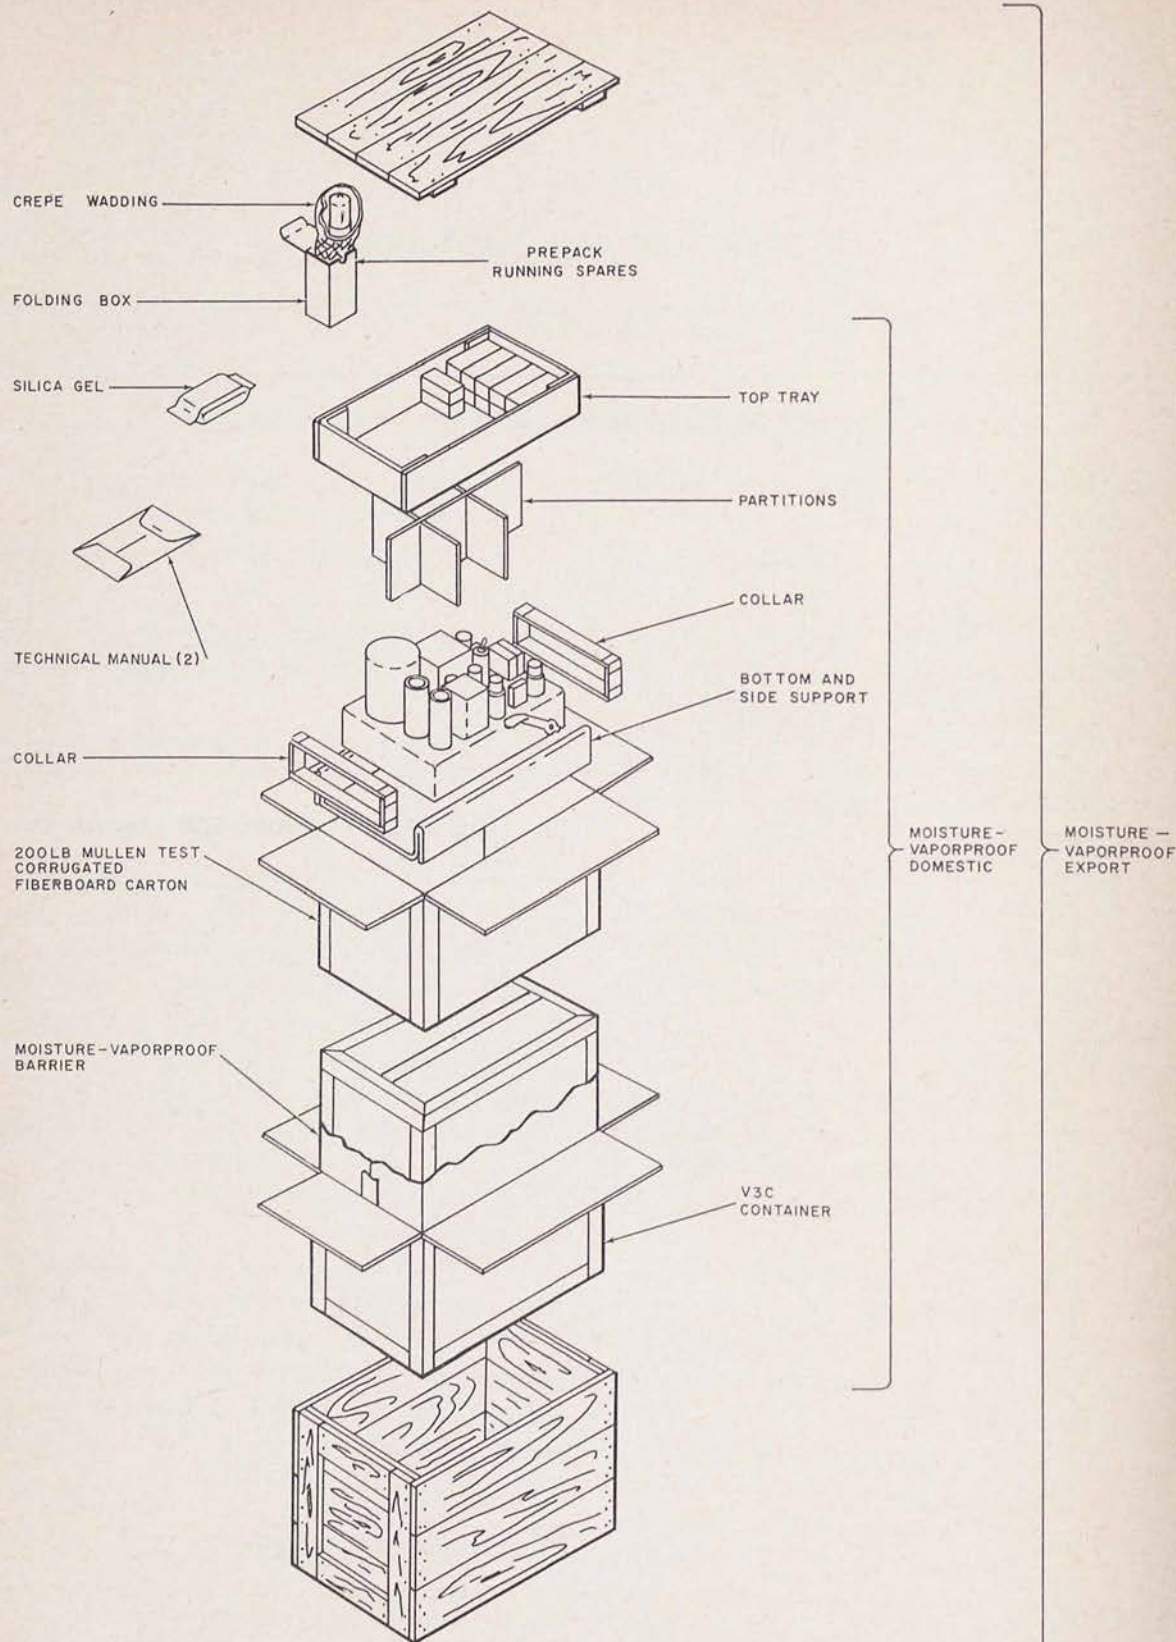

Figure 4. Packaging diagram.
a. When packaged for export shipment, the components of AF Amplifier AM-465/FR are packed in a moisture-vaporproof corrugated container which is placed in a wooden crate. An exploded view of a typical component packed for export is shown in figure 4. The size, weight, and volume of the container are indicated in the following chart:
a. General. For domestic shipment, equipment is packed in corrugated fiberboard cartons (*c* below). For oversea shipment, the equipment is packed in double fiberboard cartons with a moisture-vaporproof barrier, packed in a wooden crate (*b* below). A packaging diagram for export and domestic shipment is shown in figure 4.